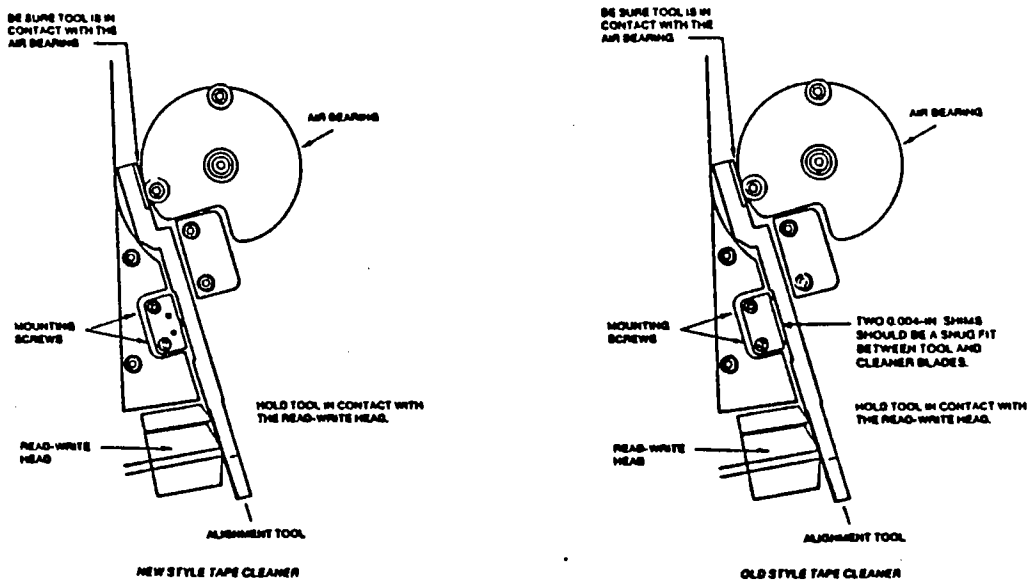

Figure 5-10. Tape Cleaner Adjustment
2. Insert the gauge as shown in Figure 5-10.
5. Place tensiometer on belt as shown in Figure 5-10